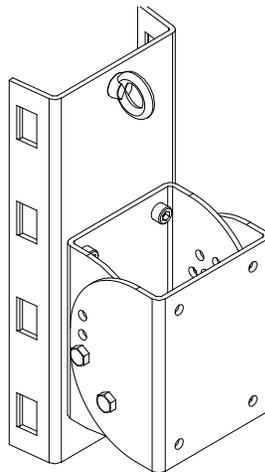
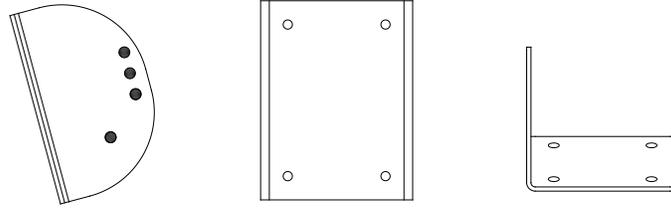
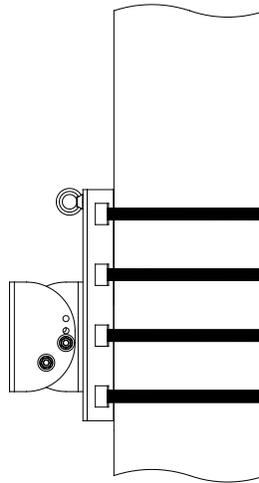

Figure 1
Figure 2
Figure 4
Figure 1 above represents the isometric and top views of the pole bracket, including the loudspeaker bracket section. The loudspeaker bracket is shown separately below in Figure 2.
1. Mount the pole mount section (see Figure 1) of the bracket to the pole at the desired height on the pole. The loudspeaker bracket shown in Figure 2 should be removed prior to hanging the pole mount section. The bracket is mounted to the pole using BAND-IT stainless steel bands. **DO NOT SUSTITUTE** bands of other material or other widths! There are **FOUR (4)** locations on the pole bracket for bands. **ALL FOUR LOCATIONS MUST BE USED.** Figure 4 illustrates the locations for the stainless steel band clamps.
5. The loudspeaker may now be placed on the pole bracket (main bracket) (see figures 1 and 2).